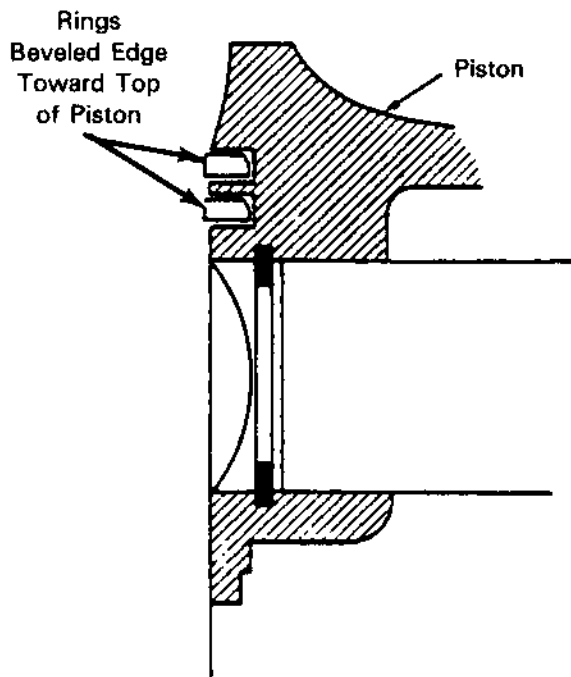

Figure 46 - Ring Position in Piston
2. Position connecting rod (31) in piston (30). Hand push the wrist pin through the piston and rod. Install two retaining rings (29) using Tru-Arc pliers.
3. Work the rings (28) carefully over the top of the piston with the beveled edge toward the top of the piston until the rings are in their respective grooves. A piece of shim stock will aid in moving the rings into position. Check to be sure the beveled edge of the rings are on top as shown in Figure 46 and that the rings are free in the grooves after installing.